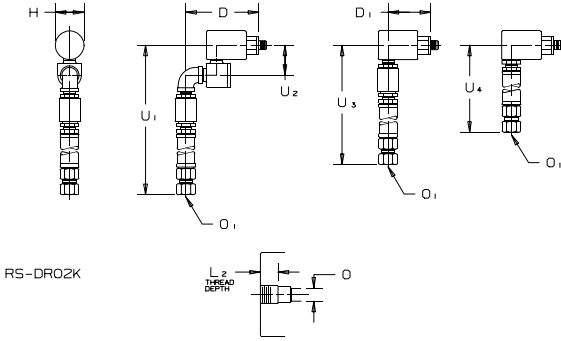

Figure 2
2.2.1 The rotorseal housing has an American National Pipe Thread air inlet as shown in Table 2. This connection to the rotorseal should always be through a flexible hose. Refer to Figure 2 for examples of mounting assemblies.